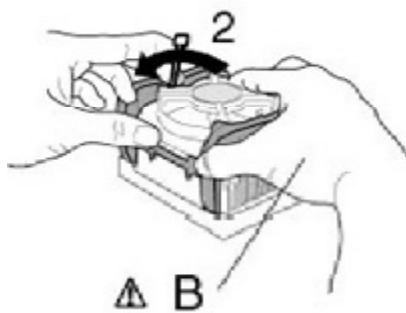

Figure 3-10c: Installing the Fan Heatsink (6)
- b.) Then, close the clip lever (2 in Figure 3-10c), while holding the topside of the fan heatsink with your other hand (B in Figure 3-10c).